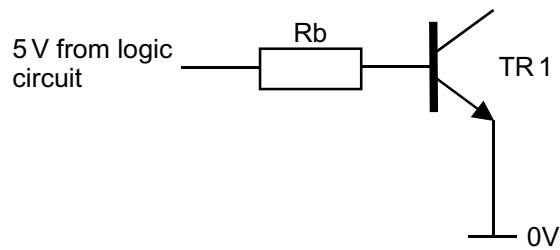

Fig. 9(b)
- (i) Draw a circuit diagram to show how a 12 V motor would be controlled by the transistor shown in **Fig. 9(b)**. Assume the transistor uses a 9 V power supply. [2]
- (iii) The transistor shown in **Fig. 9(b)** has a current gain (h_{FE}) of 60 and a base/emitter voltage (V_{be}) of 0.7 V. If the collector current is to be limited to 420 mA, calculate the required value of resistor R_b . [3]